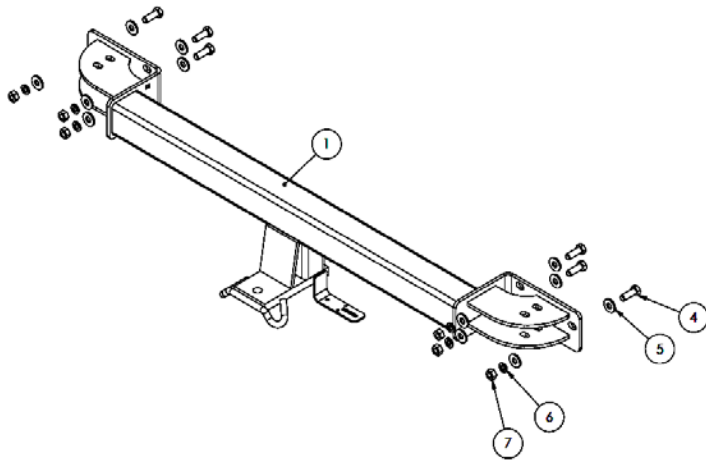

Figure 2 – Locate the towbar on the vehicle.
2. Locate the towbar welded assembly on the back panel and tighten the bolts on the back panel, as shown in Figure 2